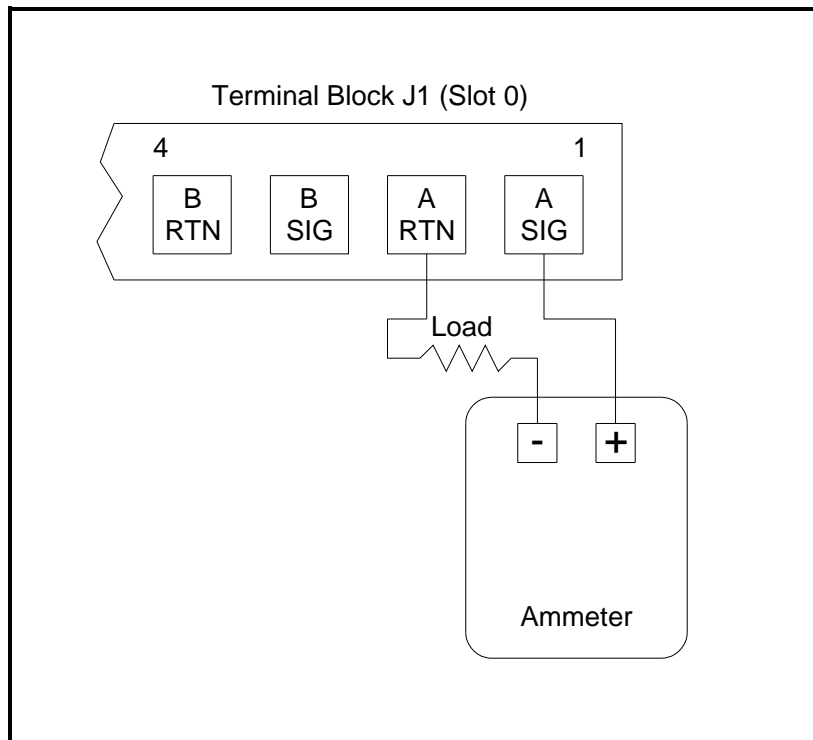

Figure 12: Ammeter Connection (Output A)
Prepare for calibration by inserting an ammeter in series with the load on analog output A at terminal block J1, as shown in Figure 12.
**IMPORTANT:** *The procedure for calibrating Output B is identical to that for calibrating Output A. However, when calibrating Output B, be sure to reconnect the ammeter on terminal block J1. See Figure 12 on page 49 for the correct pin numbers.*
Prepare for calibration by inserting an ammeter in series with the load on Output A of the option card. See Figure 12 on page 49 to identify the OUT(+) and RTN(-) pins for Output A on terminal block J2.